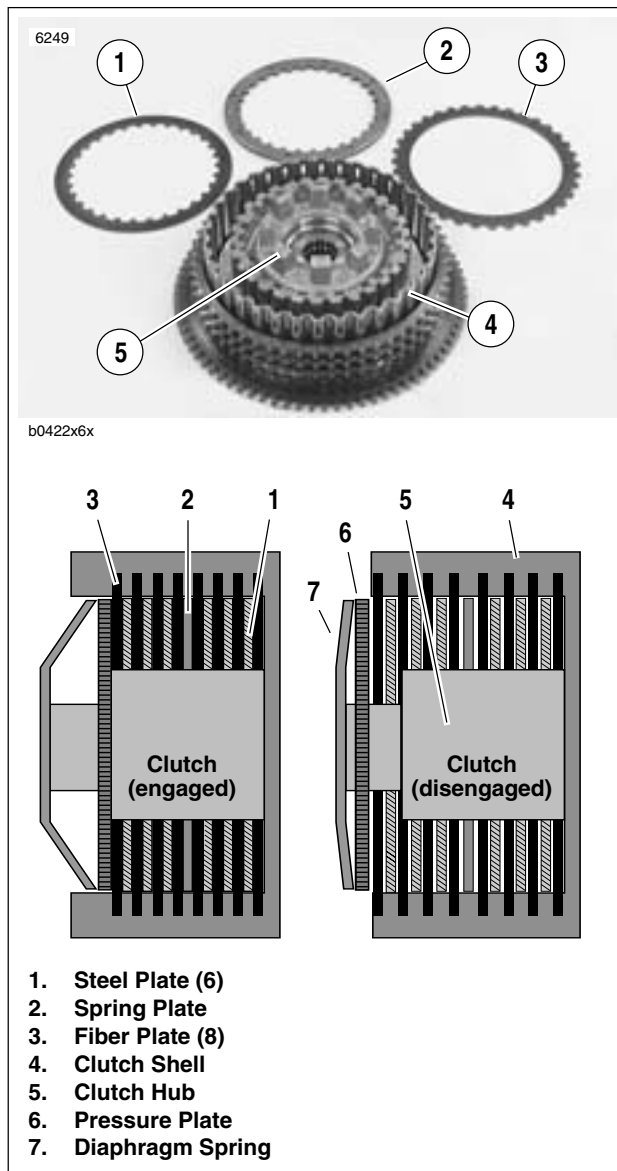

Figure 6-11. Clutch Plates and Hub/Shell Assembly
See Figure 6-11. The clutch is a wet, multiple-disc clutch with six steel plates (1), one spring plate (2) and eight fiber (friction) plates (3) stacked alternately in the clutch shell (4). The order of plate assembly, from inboard to outboard, is as follows: